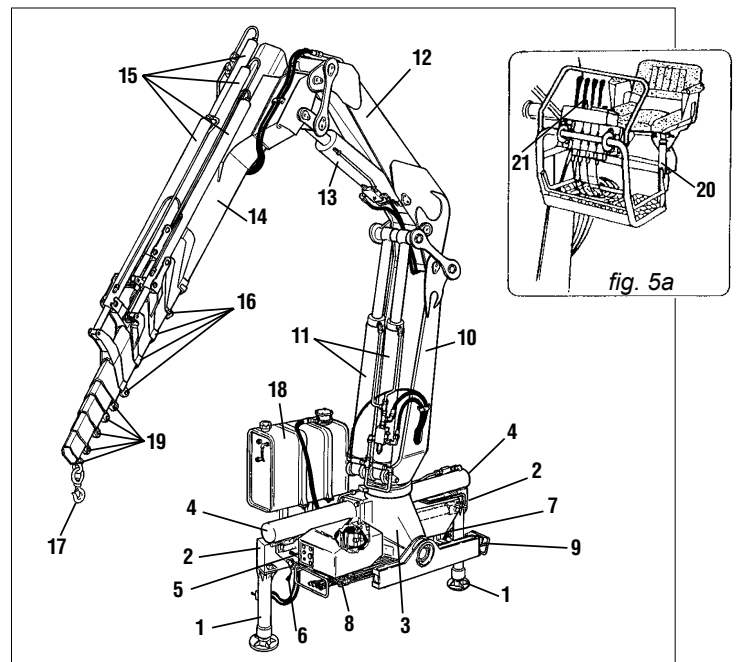

fig. 5
- Version with ground controls for crane and outriggers (fig. 5)